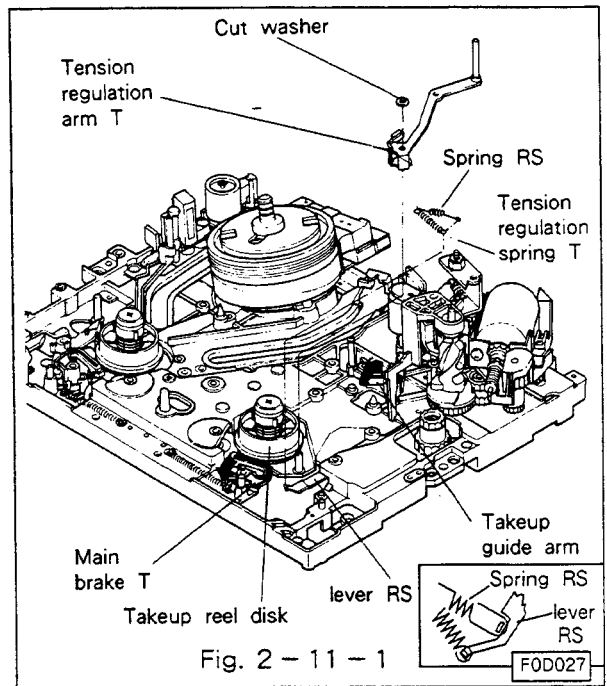

Fig. 2-11-1
2-11-1 Removal (Refer to Fig. 2-11-1.)
N. Fasten the tension regulation spring T and the spring RS to the tension regulation arm T and the lever RS from the top side of the deck. (Refer to Fig. 2-11-1.)